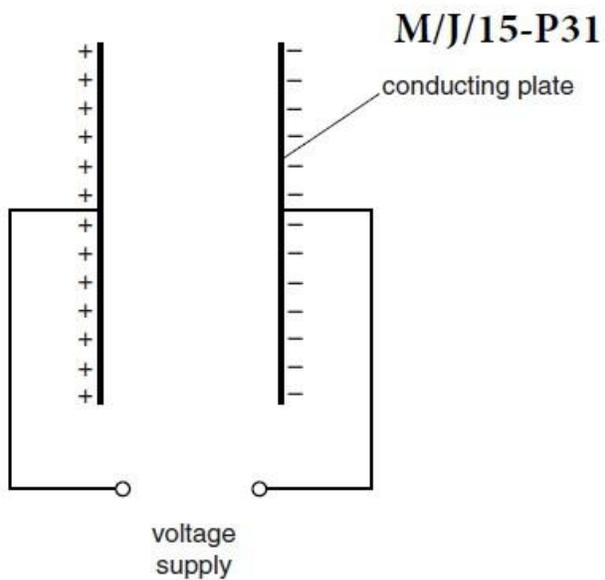

Fig. 10.1
10 Fig. 10.1 shows two parallel conducting plates connected to a very high voltage supply.
- (a) On Fig. 10.1, draw the electric field pattern produced between the charged plates. Use arrows to show the direction of the field. [2]